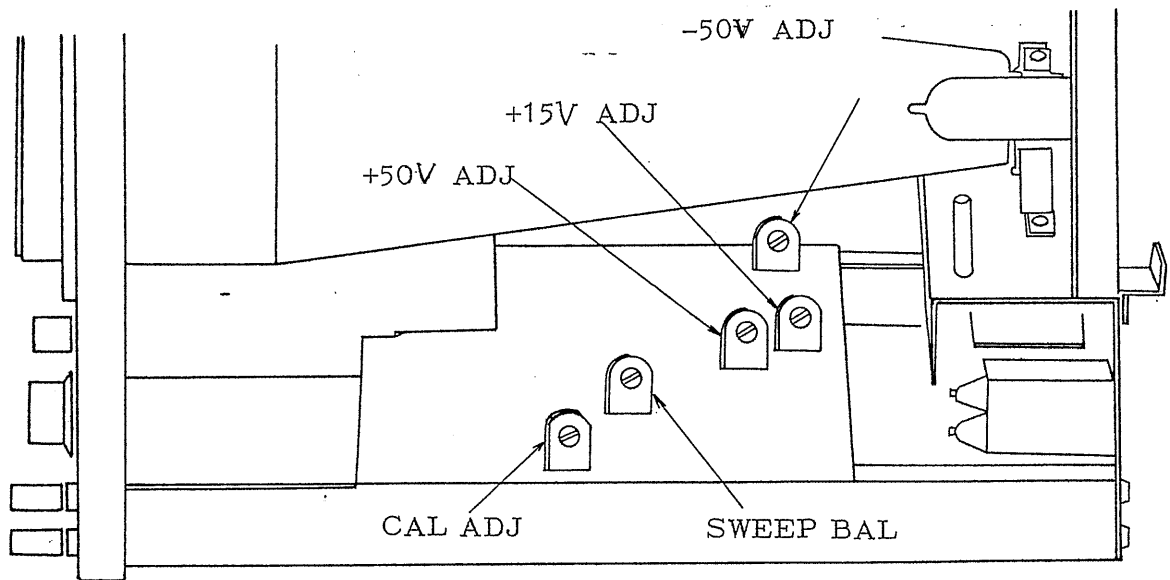

Fig. 22
- 5) Adjust the bright line to the scale center by means of the SWEEP BAL semi-fixed resistor shown in Fig. 22.
Adjustment can be made on the output voltage by the CAL ADJ semi-fixed resistor shown in Fig. 22.
Adjustment can be made on the respective voltages by semi-fixed resistors. The semi-fixed resistors are shown in Fig. 22 respectively.